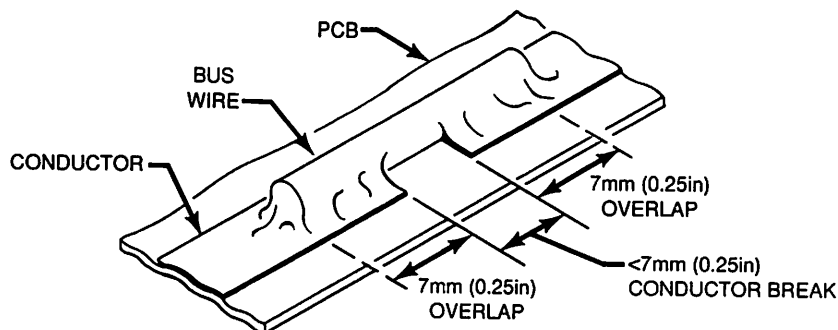

FIGURE 4-4. REPAIRING A CONDUCTOR BREAK LESS THAN 7mm
3. Place the wire on the centerline of the conductor, across the break, and solder in place (see Figure 4-4, Repairing a Conductor Break Less Than 7mm).